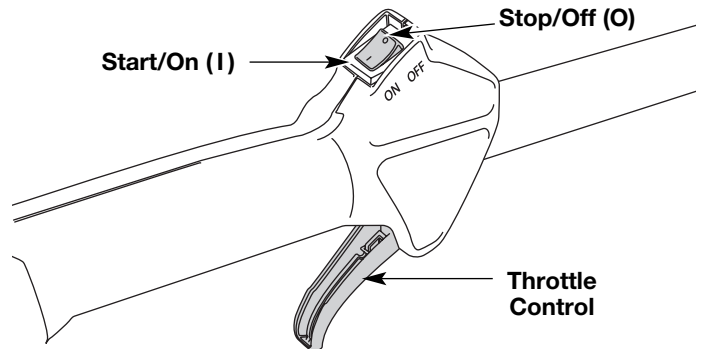

Fig. 10
3. Make sure the On/Off Stop Control in the ON (I) position (Fig. 10).